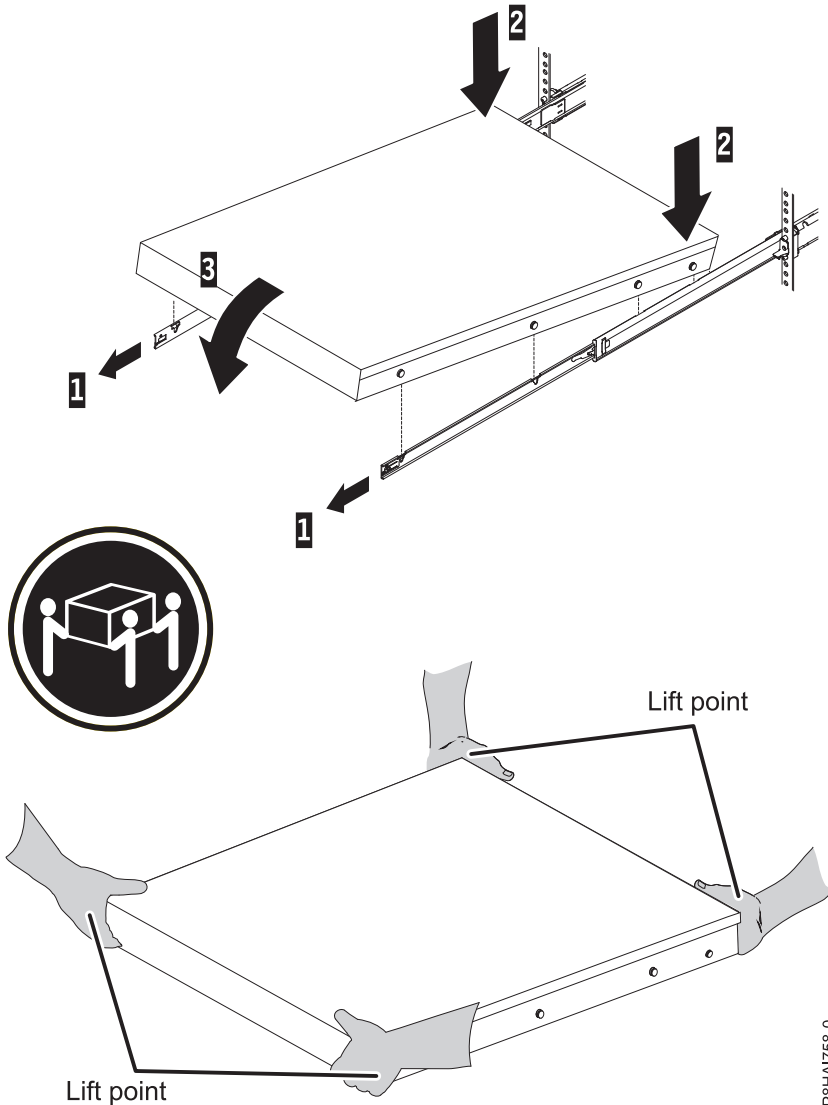

Figure 57. Slide rails extended, server nail heads aligned with slots in rail, and lift points
**Note:** Use safe practices while lifting. If you are installing a 1 U server, ensure that you have two people when you lift the server. Their hands must be positioned as illustrated in Figure 57.
7. Lift the locking levers (1) on the slide rails and push the server (2) all the way into the rack until it clicks into place.